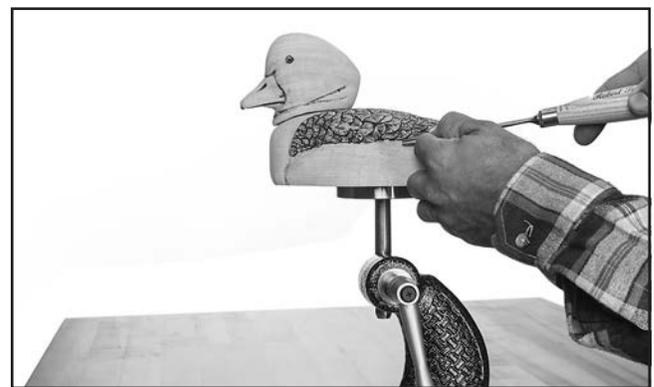

Figure 17. Using chisel to shape workpiece.
3. Use a chisel or other tools to shape workpiece (see **Figure 17**).